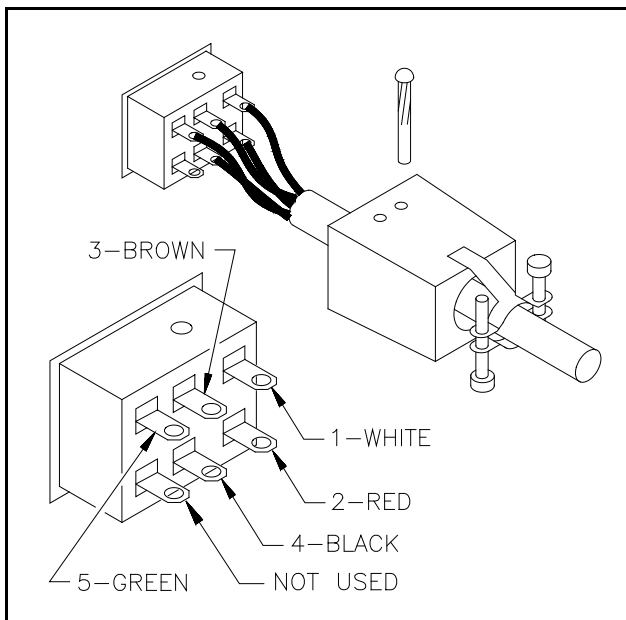

Figure 4. Five wire cord connector
- 5.2 A short in the connector at the end of the five wire cord is a prime cause for semiconductor failure. Loosen the strain relief clamp screws on the connector. See Figure 4. Push out the small pin in the connector with an awl or small diameter tool. Pull back the cover and examine the connections carefully. Make sure that the terminals are not bent and are separated by at least 1/8". Solder any loose or frayed connections and assemble the cover.